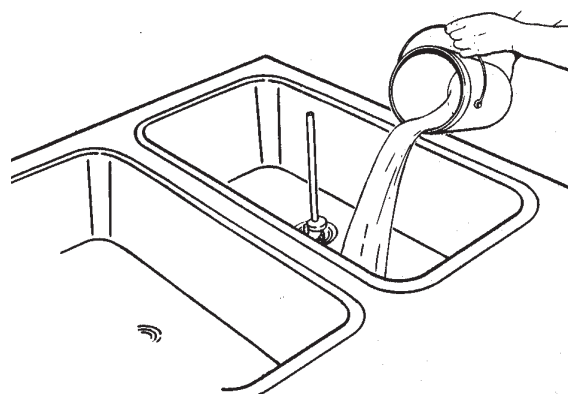

Figure 11. Sanitizing Procedure
- B. Prepare 2 gallons (7.5 liters) of sanitizing solution following manufacturer's instructions. Pour into hopper with mix inlet regulator in place (Fig. 11).